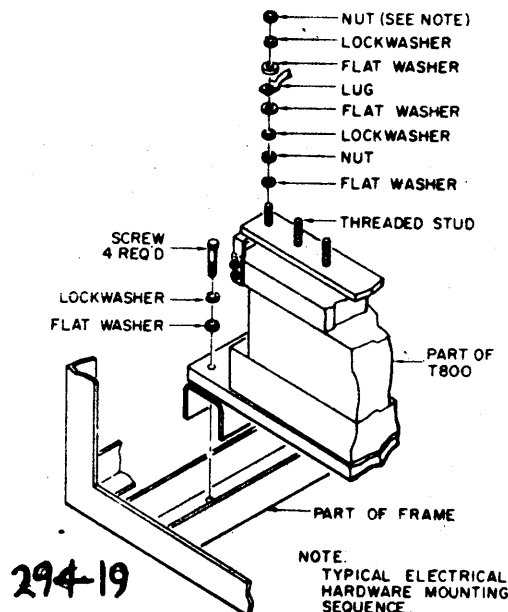

Figure 2-12. Transformer T800, Installation Diagram.
- c. Position power transformer T800, figure 2-12, into bottom front of second frame.